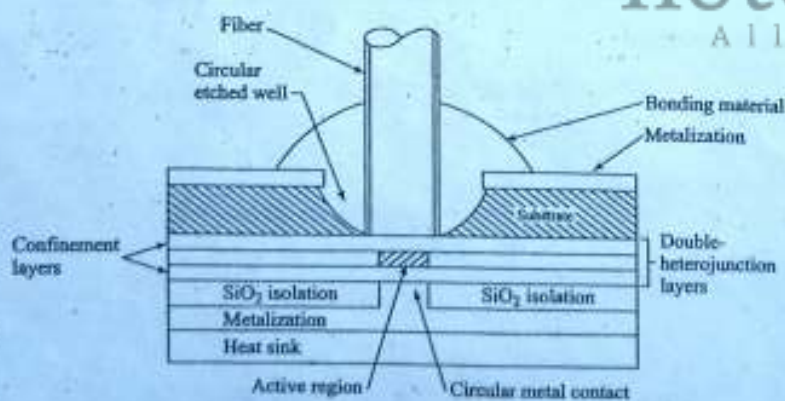

Fig 2: Schematic of high radiance surface emitting LED
* In this configuration, the plane of active light emitting region is oriented perpendicular to the axis of the fiber as shown in fig 2.